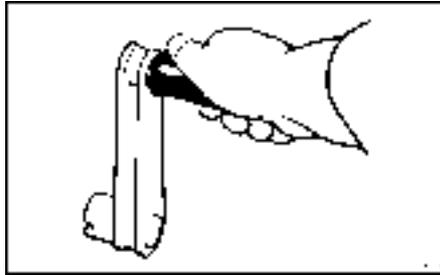

Figure 3.8.4 Holding the Starting Handle
9. Firmly hold the handle grip, **with the thumb on top of the grip**, as shown in 'Figure 3.8.4', and crank the engine really fast, when sufficient speed is obtained move the decompressor lever towards the gear end and continue to crank until the engine fires.